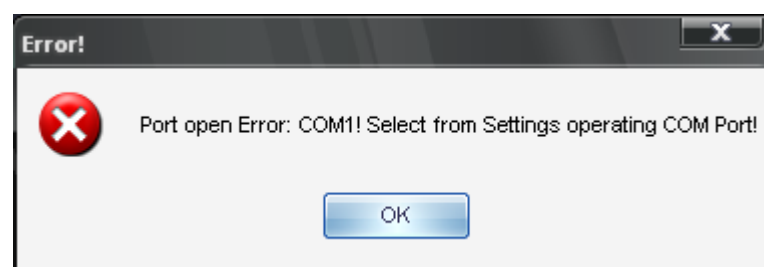

fig. 5.5. Error message
- if the service adapter is not connected, the error message will be displayed on the screen (fig. 5.5);